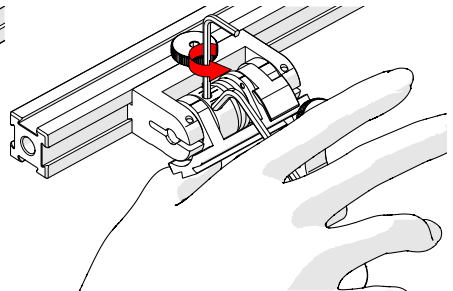

Fig. 210 - Press 3 mm hex wrench down
5. Lightly press the long arm of the 3 mm hex wrench down. Using the 2 mm hex wrench, loosen the force adjustment screw but do not remove it (Fig. 210).